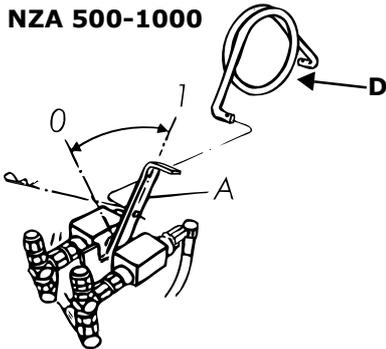

Figure 1.3
- ! Always keep the reversing valve of the wing folding hydraulic ram closed during transport on the road or whenever persons are in close proximity to a folded up wing section, e.g. when replacing tines. Remove the rod D and move the lever A to the front. See “Figure 1.3”, position O.